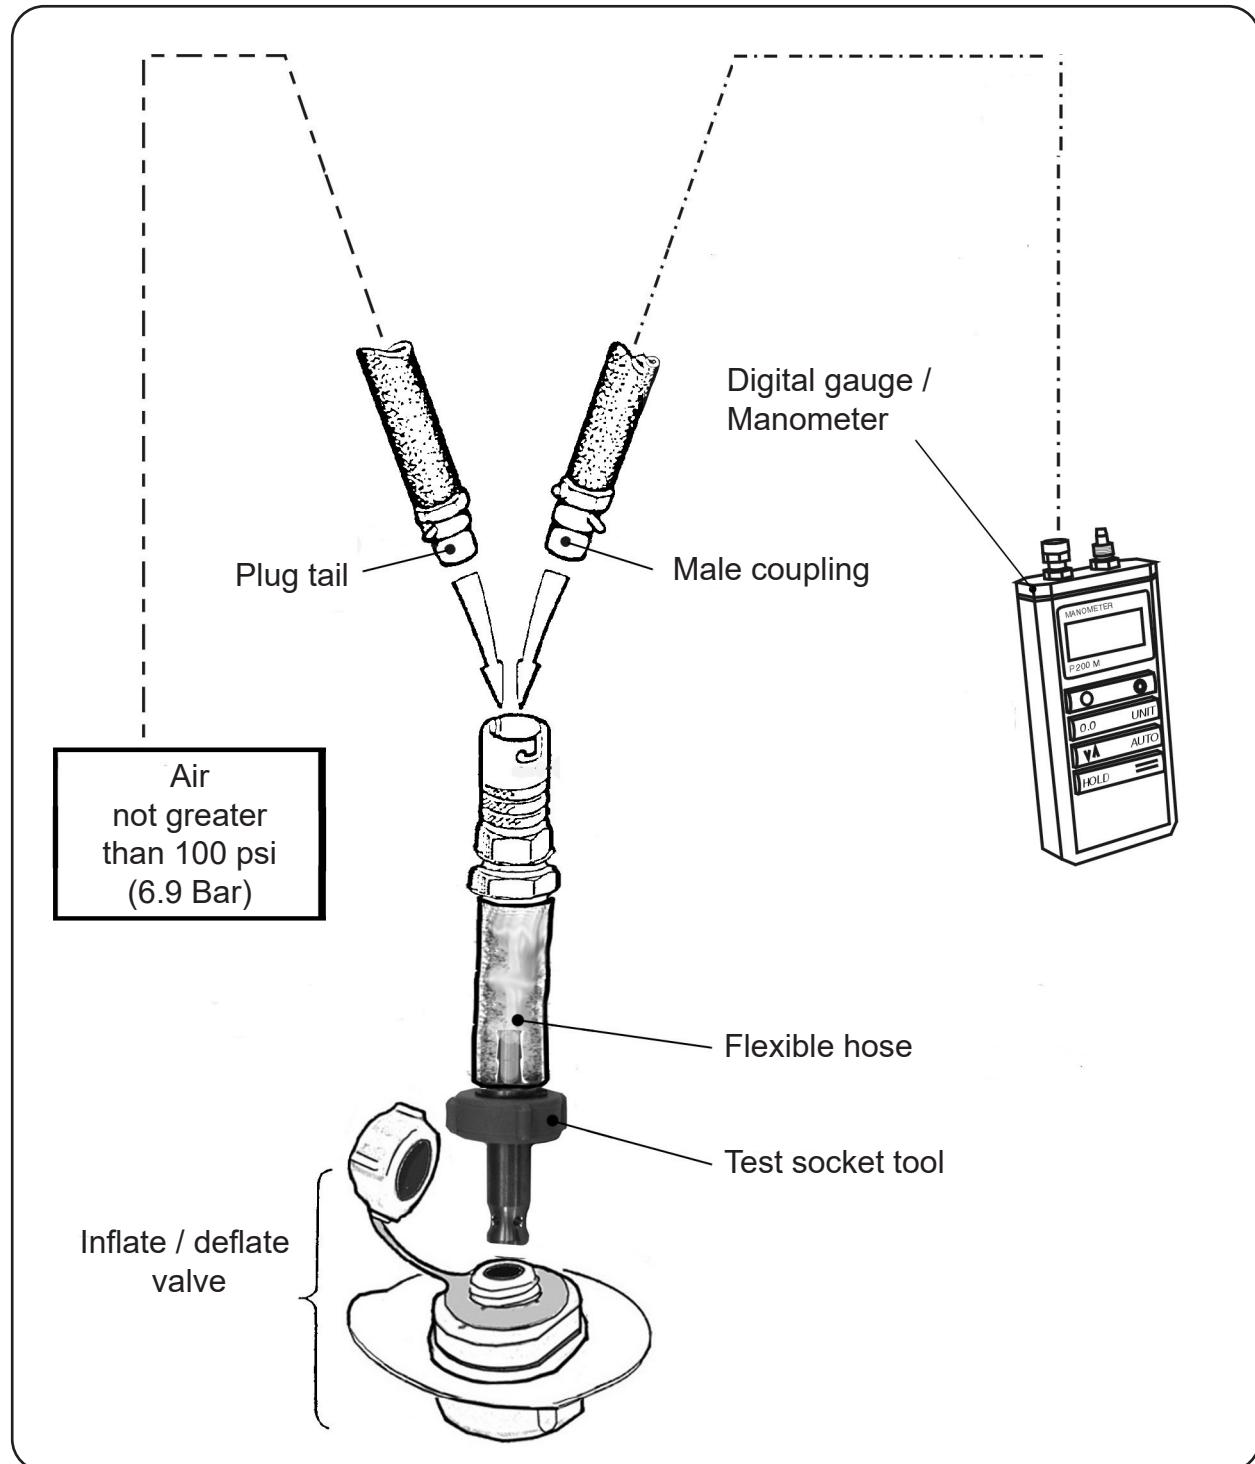

FIGURE 501
- (c) Disconnect the air supply and connect the manometer. Refer to FIGURE 501.